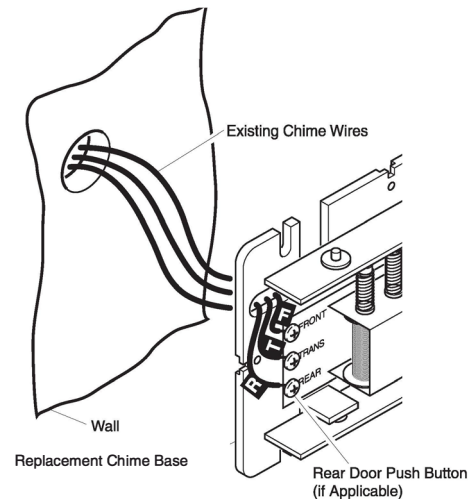

Figure 2 - Mechanical Chime Wiring
9. Connect wire "F" to screw terminal marked "FRONT". Connect wire "T" to screw terminal marked "TRANS". Connect wire "R" to screw terminal marked "REAR" (See Figure 2).